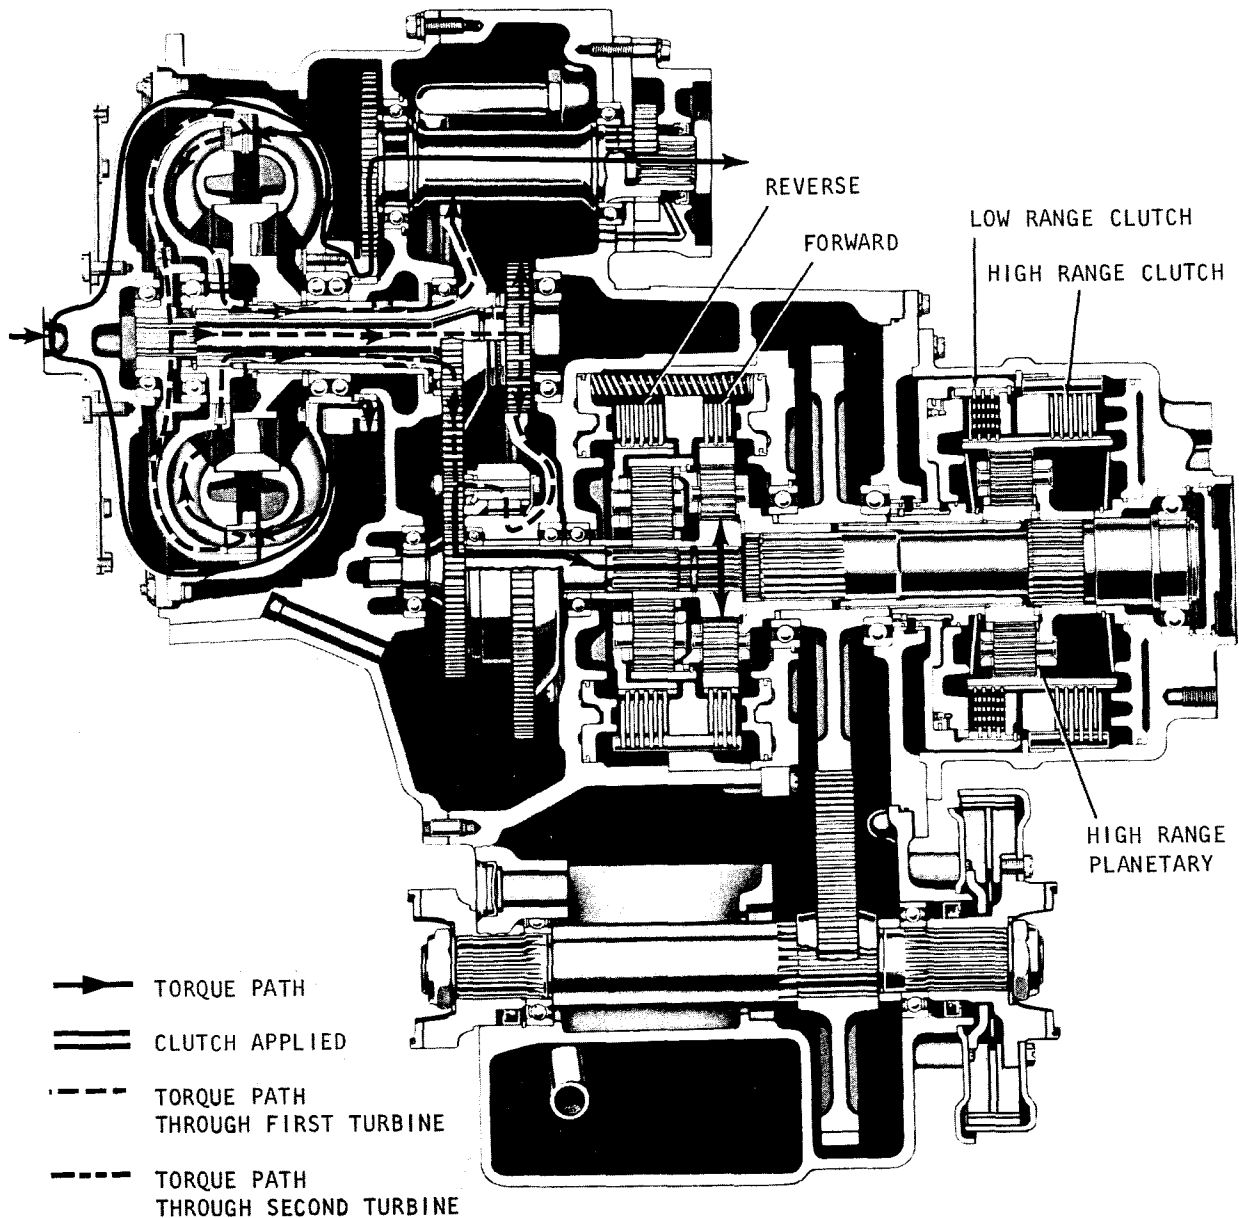

Fig. 2-10. TRT 2421-1 neutral and PTO torque paths
b. Schematics and Explanations. Torque paths through the various models of transmissions are covered in paragraphs 2-22 through 2-25, below. All individual conditions for all transmissions are not illustrated by schematics. However, the colored torque path schematics (fig. 2-10 through 2-18) and explanations for specific models can be applied to other models. This will be done by referring, in some instances, to text and illustrations for one model when explaining another model.
(1) Any model transmission may be coupled to the engine with either the remote-type input components (A, foldout 5) or the flex disk arrangement (B, foldout 5).
(2) The function and arrangement of the torque converter elements (A, foldout 6) and converter gearing (B, foldout 6 and A, foldout 7) are the same for all transmission models. Sizes, ratios and converter models are different among various transmission models but do not affect explanation of working principles and torque paths.
(3) The reverse planetary gearing and clutches are identical for all models.
(4) Thus, when studying the power flow through various models, the study of the power path from transmission input to the reverse gearing input need not be repeated.
Accordingly, the explanation of this part of the power flow is made applicable to any transmission model and to any of the torque path schematic diagrams (fig. 2-10 through 2-18).
a. Neutral (fig. 2-10)
(1) In neutral, power is transmitted only to the combined reverse and forward planetary sun gears (refer to para 2-21d, above). The low-range clutch is engaged but no torque is transmitted because neither the forward nor reverse clutch is engaged. The
(2) The power takeoff drive torque path is illustrated in figure 2-10 and is identical in all TRT transmissions. The rotation of either power takeoff spline (refer to fig. 1-2) is opposite engine rotation (or clockwise — viewed from rear). Both power takeoff splines rotate at either 0.91 or 1.00 times engine speed, depending upon the drive gear option.
(1) Refer to foldout 2 while studying the explanation of power flow in neutral. Refer to paragraph 2-21d, above, for explanation of power flow from the engine to the transmission gearing.
(2) In neutral, no power is transmitted beyond the forward and reverse planetary sun gear. Refer to paragraph 2-22a(2) and figure 2-10 for explanation of the power takeoff power flow.
(1) Refer to foldout 3 while studying the explanation of operation in neutral. Refer to paragraph 2-21d, above, for explanation of power flow from the engine to the transmission gearing.
(2) In neutral, power is not transmitted beyond the reverse and forward sun gear. The low-range clutch is engaged but no torque is transmitted because neither the forward nor reverse clutch is engaged. The reverse carrier and forward ring gear rotate freely.
(3) Refer to paragraph 2-22a(2) and figure 2-10 for explanation of the power take-off torque path.